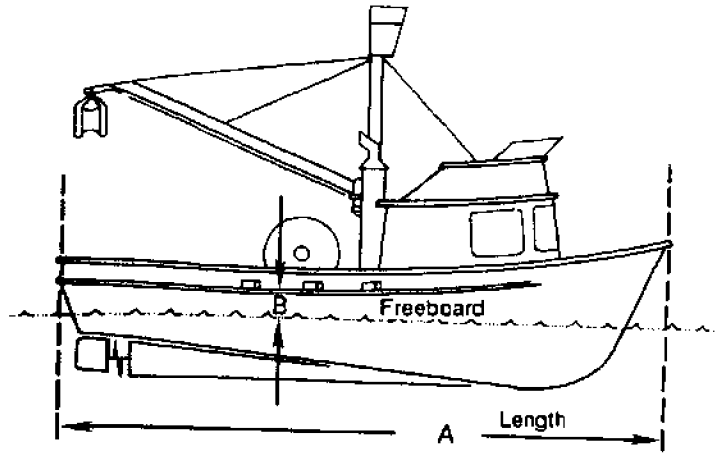

Figure 2
1. the maximum length of your vessel (A in figure 2);
2. the minimum freeboard of your vessel (B in figure 2); and